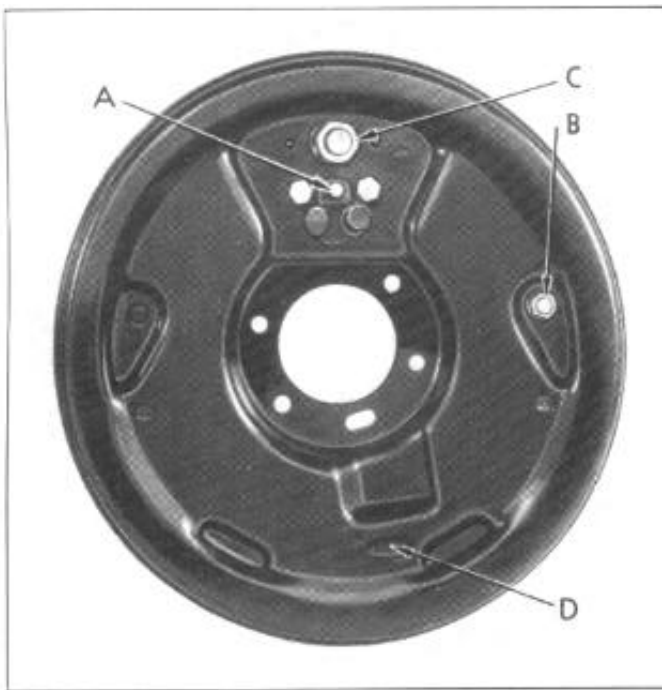
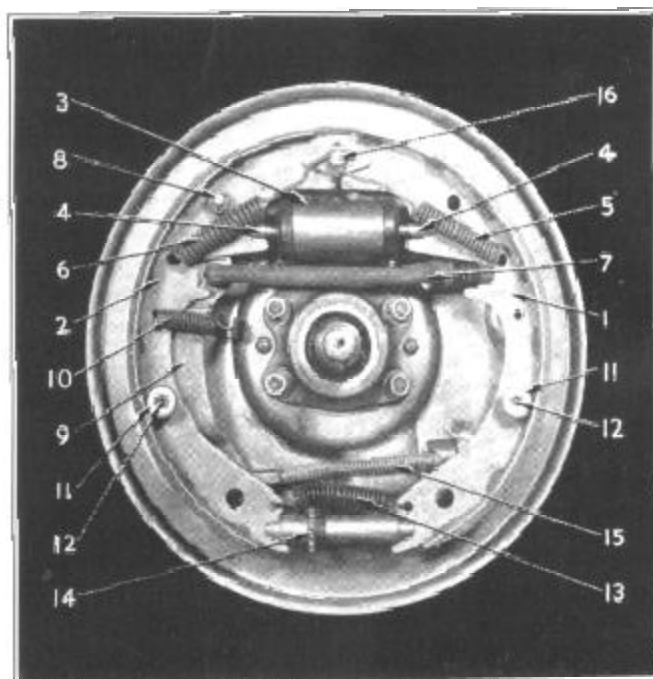

Figure 5
Figure 7
6. Push cable into conduit and after shoes have been installed, connect cable to shoe operating lever (9), Figure 7, leaving adjustable yoke end of cable disconnected.
8. Before installing new shoes, turn the secondary shoe eccentric (B), Figure 5, so that the high side of the eccentric is away from the anchor link.
**NOTE:** If the clearance at the ends of the secondary shoe varies more than .003", adjust the anchor pin as follows: At all four wheels loosen the anchor pin nut (C), Figure 5, one turn and tap anchor pin slightly in necessary direction with a soft hammer, turning the eccentric (B), Figure 5, in the direction of forward wheel rotation to give the specified clearances of .010" at the adjusting screw end and .010" at the anchor end of the shoe against which the eccentric operates. Tighten the anchor pin as tightly as possible with a 16" wrench. Tighten eccentric lock nut.
2. Remove retracting springs (5) and (6), Figure 7, from primary and secondary shoes (1) and (2).
3. Remove brake shoe hold-down spring cups (11), springs and spring pins (12).
4. Remove shoes (1) and (2).
5. Remove brake adjusting screw spring (13) and screw (14).
6. Remove shoe to cylinder links (4) and shoe cable lever to shoe pin (8) on rear brakes.
7. Disconnect rear brake cable (15) from shoe cable lever (9) and remove shoe to anchor bracket spring (10) and shoe cable lever strut (7), also on rear brakes.
8. Remove eccentric by taking off nut B, Figure 5. 9. Remove wheel cylinder by disconnecting hose at backing plate. Remove two cylinder mounting bolts and withdraw cylinder with cylinder clamp in place.